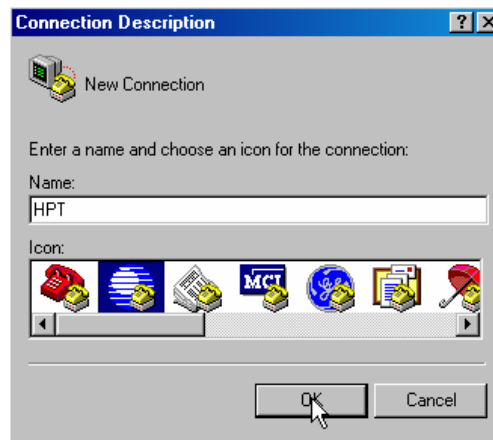

Figure 25: Connexion Description Diallo Box
1.	Activate the “HyperTerminal” software to bring up the “connection description” dialog box, shown in Figure 25.